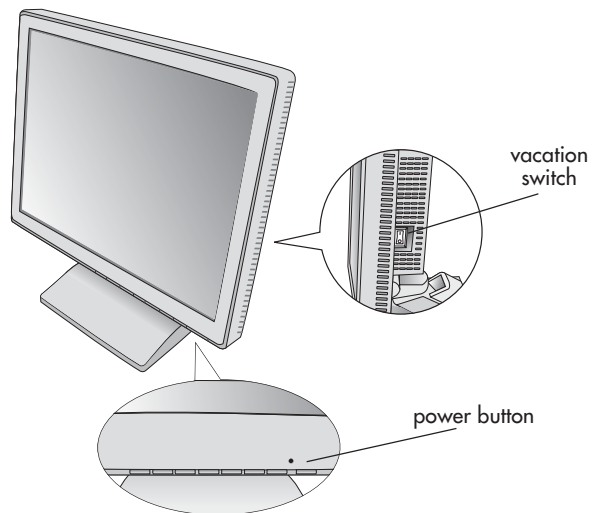

Figure D.1
6. The Vacation Switch on the right side of the monitor must be turned on (**Figure D.1**). Turn on the monitor with the front power button and the computer.